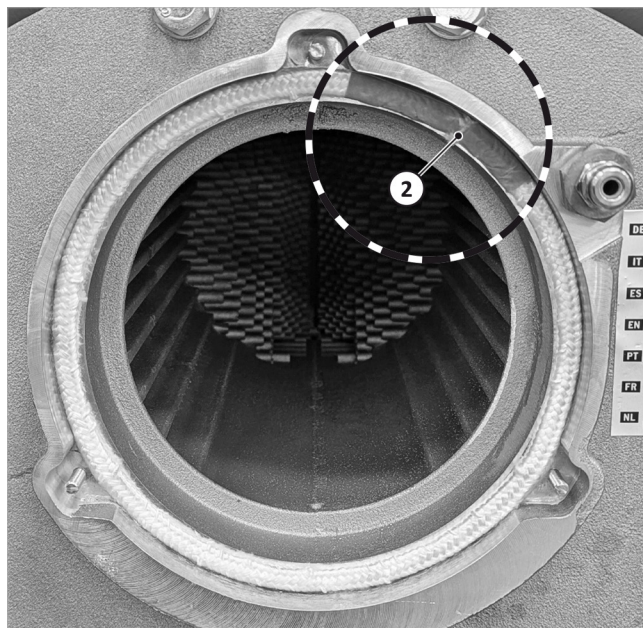

Fig. 4: Insert both ends of the boiler sealing cord so that they overlap
1. Insert one end of the boiler sealing cord. The angled cut surface (1) must point out of the groove, i.e. be completely visible when looking into the groove from the front. Position the joint according to → Fig. 4.